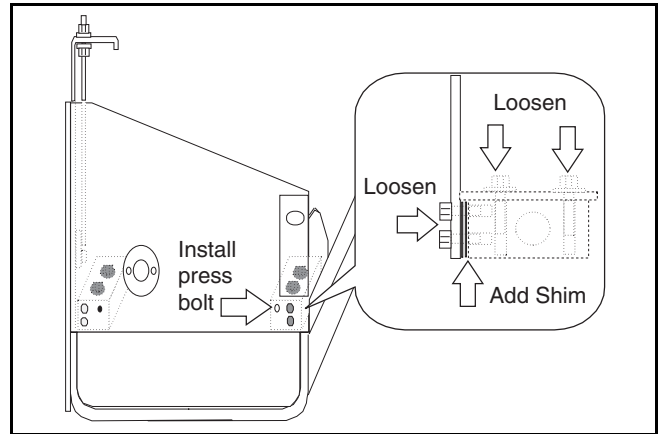

Figure 25 Shim Tipping Frame
An extending screed that is not parallel with the main screed can still function properly. The most obvious indicator that the extending screed is not parallel to the main screed will be that the extender tubes will be out-of-line. When retracting the screed, tubes may rub or hit part of the structure normally cleared or be noticeably misaligned with tubes of the opposite extending screed. (Figure 25)
- 5) Tighten the keeper bolts and remove press bolt. (Figure 25)